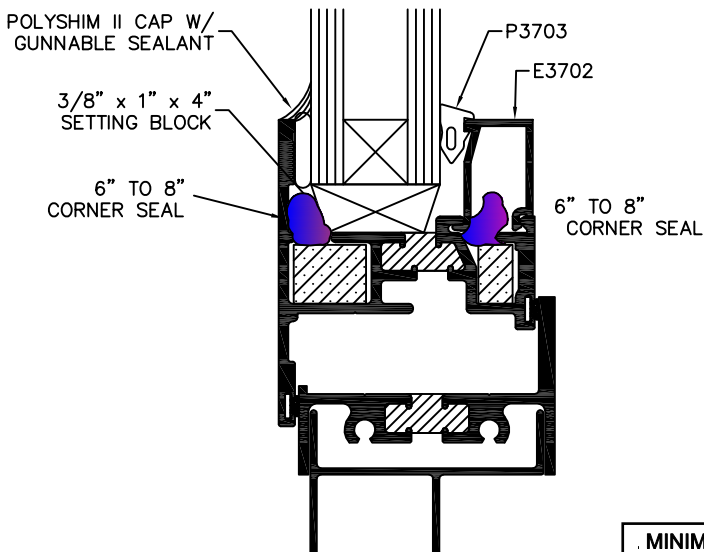

FIGURE 2
1. APPLY TREMCO POLYSHIM II BUTYL GLAZING TAPE CONTINUOUS TO SASH AS INDICATED IN FIGURES 2 AND 3.
2. INSTALL 3/8" x 1" SETTING BLOCKS AT 1/4 POINTS AS SHOWN IN FIGURES 2 AND 3.
A. USE E3702 FOR 1" GLASS (SEE FIGURE 2).